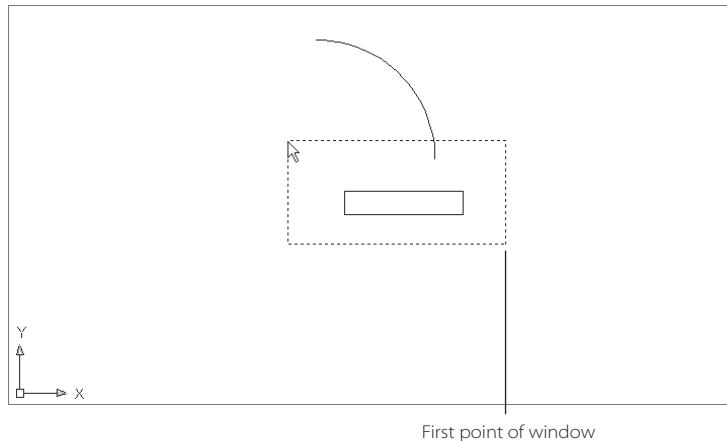

Figure 4.4
1. Select a point below and to the right of the rectangle, as shown in Figure 4.4. As you move the cursor left, the crossing (dotted) window appears, and the window area is tinted green.
2. Place the window so it encloses the rectangle and part of the arc (see Figure 4.4), and then click to confirm your selection area. Both the rectangle and arc are highlighted.